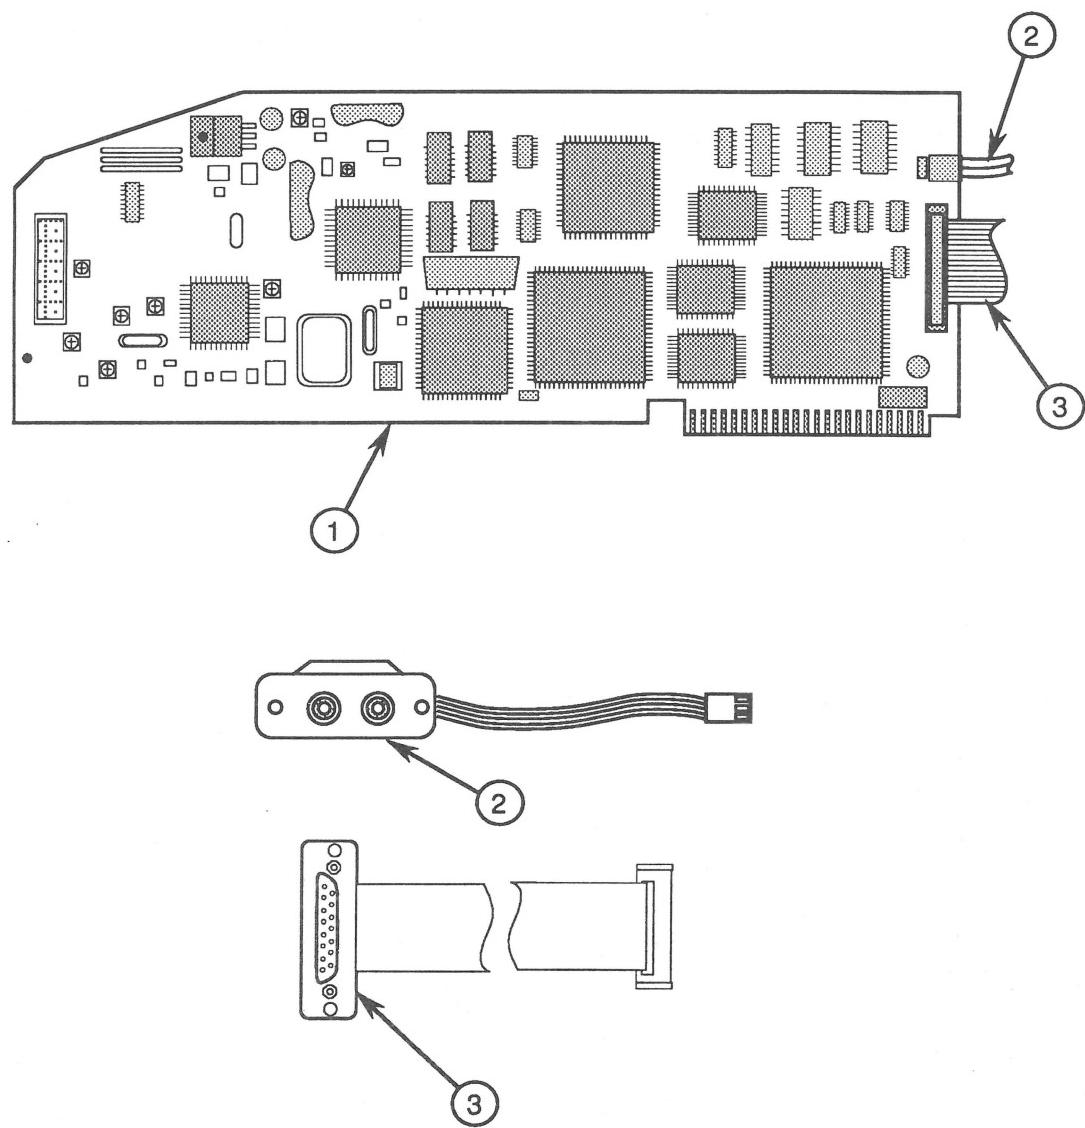

FIGURE 7
- IPL.9 Apple IIGS Video Overlay Card (Figure 7)
APPLE II GS VIDEO OVERLAY CARD (Figure 7)